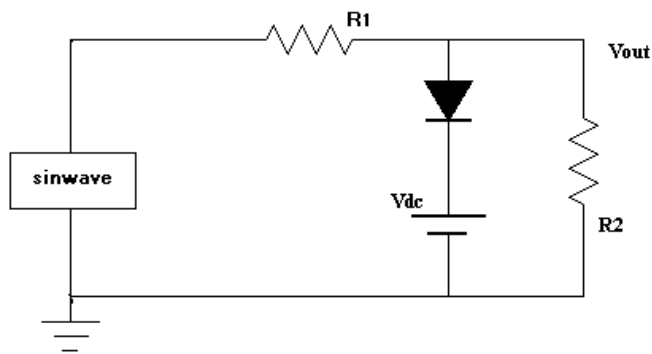

Figure 5.8
5. Sketch the output wave form of the circuit in figure5.8. Is this circuit considered as a clipper?